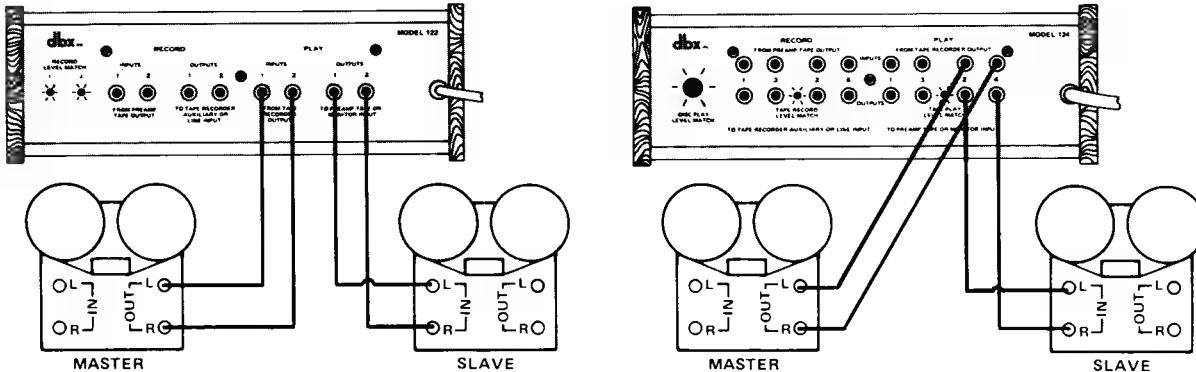

Fig. 15A – Making ■ Non-Encoded Copy from ■ dbx-Encoded Master without the Benefit of Two Tape Monitor Loops (without any preamp)
1. Either (a) disconnect the dbx PLAY OUTPUTS from the preamp's Tape Monitor Inputs, and connect the cables instead to the slave machine's Record Inputs (Figure 15A), or (b) simultaneously connect the dbx PLAY OUTPUTS to the preamp and to the slave's Record Inputs by using "Y" adapters (Figure 15B).